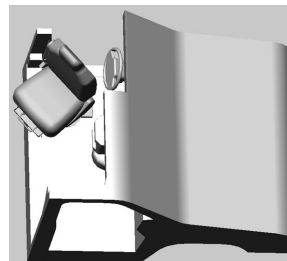

FIG 3.
5. Manually turn the seat clockwise (counter-clockwise for the passenger seat) to your desired position. The Atwood swivel pedestal is designed to rotate the seat a full 180 °, can be reclined (limited recline for the driver's side), and can be slid forward and rearward. (FIG 3.)